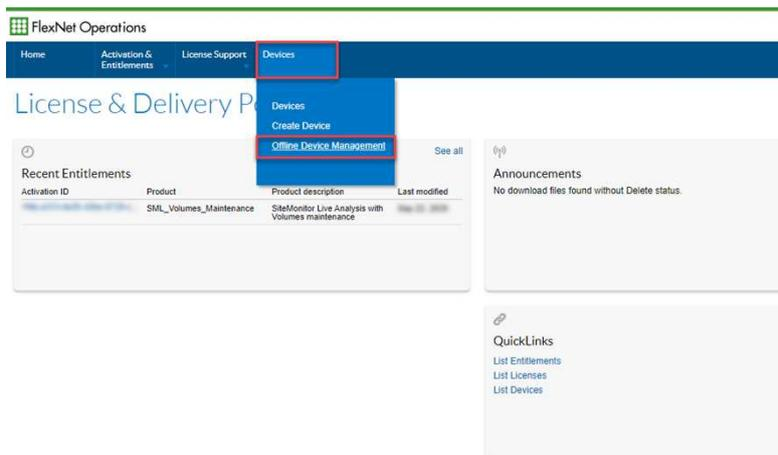

Figure 11. Select the Offline Device Management Option.
15. *Select* -> **Devices** -> **Offline Device Management** (Figure 11).